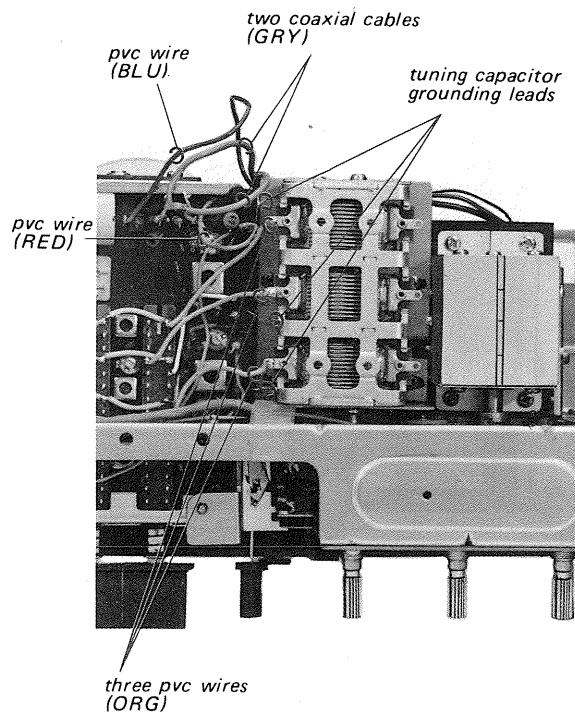

Fig. 2-8
6. Take out the shield cover and fm front end circuit board as illustrated in Fig. 2-8.
2. Unsolder the ten lead wires shown in Fig. 2-8.
1. Unsolder the same ten lead wires in Fig. 2-8 as sw tuner removal.